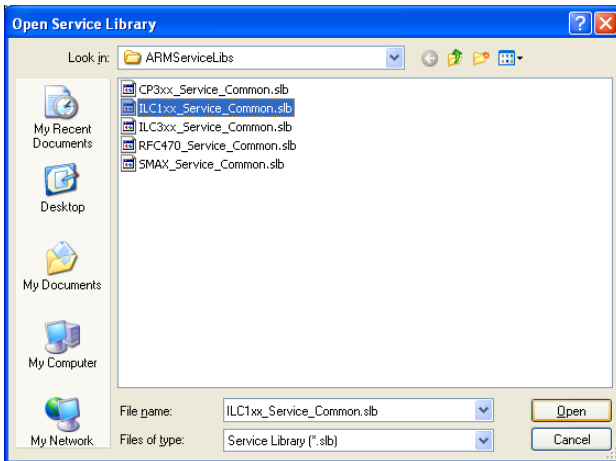

Figure 13 Select and open the service library
- Open the service library which corresponds to your controller. In the example (see Figure 13 on page 8): "ILC1xx_Service_Common.slb" file.